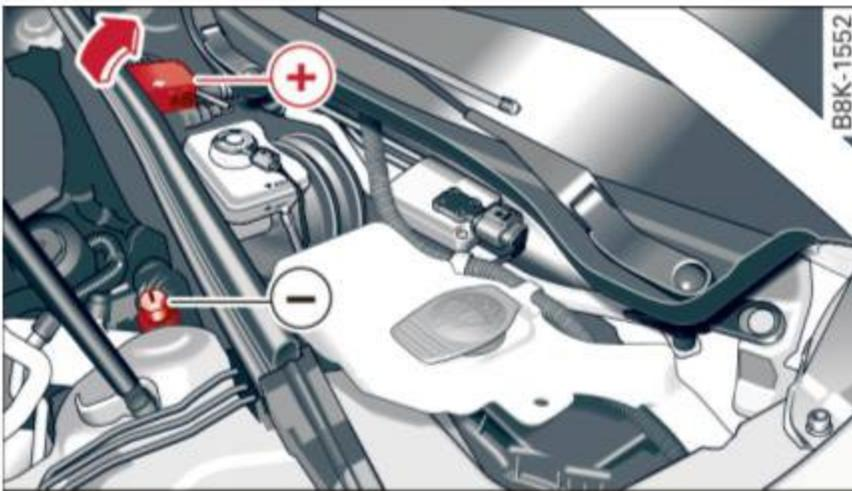

Fig. 186 Engine compartment: Connectors for jumper cables and charger
- ▶ Open the cover on the positive pole ⇒ fig. 186.